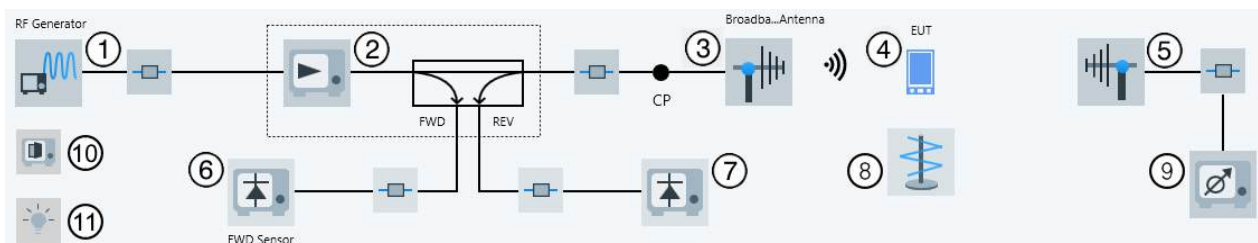

Figure 4-157: EMS hardware setup diagram (radiated) for a Reverberation Chamber in EUT Test View
- The "EUT Test View" (see Figure 4-157)